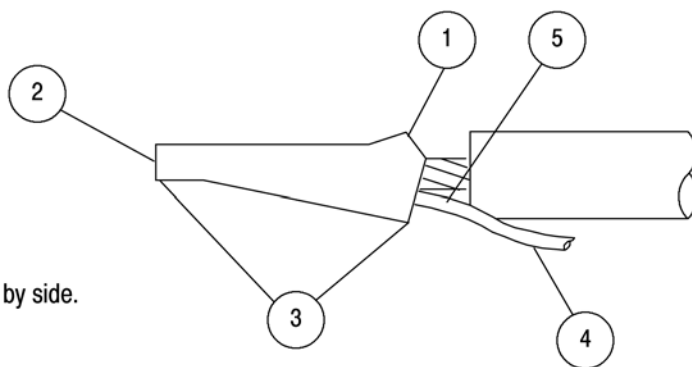

Figure 17
1. Inspect the termination for conformance to the requirements set forth in Figure 17.